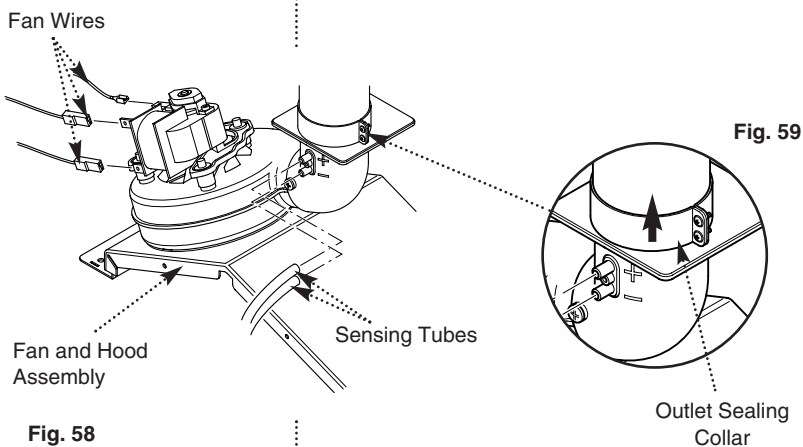

Fig. 59
2. Slacken the screws on the outlet sealing collar. Ease the collar upwards as far as possible (Fig. 59).